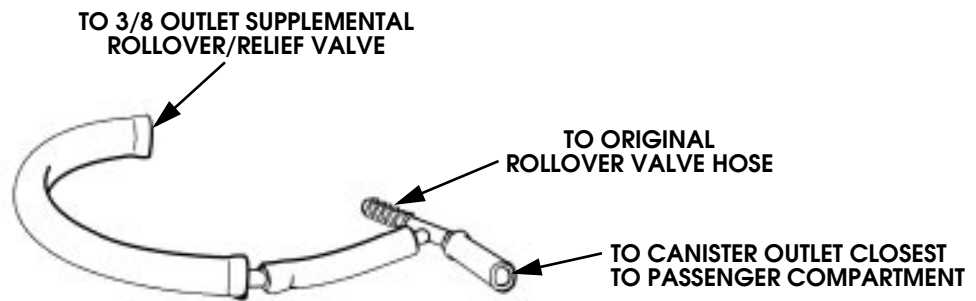

Figure 1 Connector Hose Assembly
7. Attach connector hose assembly to vapor canister as follows (Figure 1):
- a. Apply liquid soap to barbed end of tee and install existing rollover valve hose on barbed end of tee in connector hose assembly (Figure 1). Push hose onto connector until fully seated.
- b. Position original hose clamp on short hose that goes to canister (Figure 1).